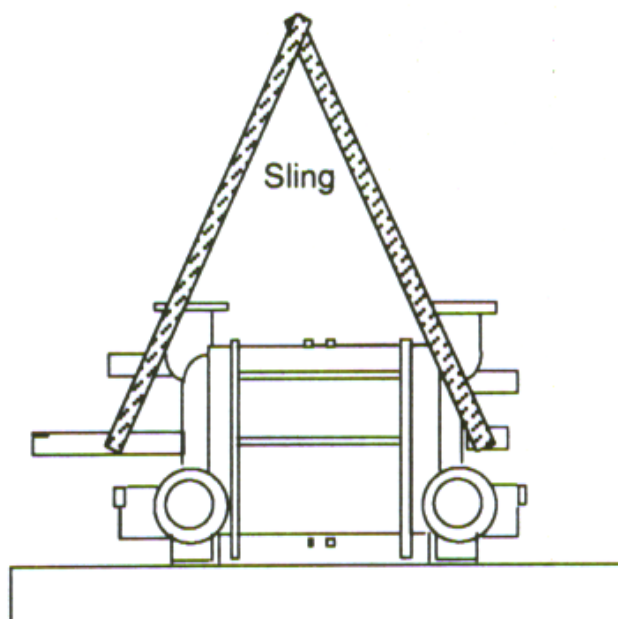

Figure 21. Sling arrangement
1. With a sling arrangement, support the rotor/shaft (M101) assembly so the shaft is not touching the stuffing boxes of the either head (D107, F107) (see Figure 21).